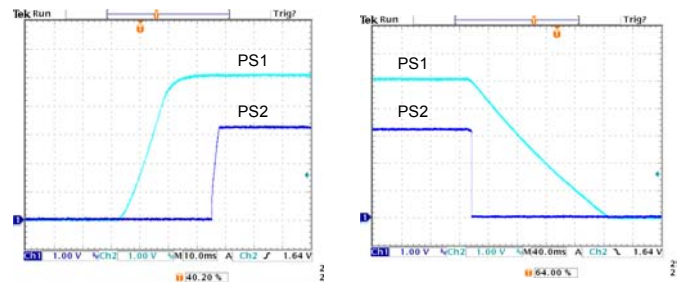

Figure 40: Sequential
Option code C: Implementation of advanced power tracking techniques is based on connecting the power good signal or selecting proper value for external resistor R1 (Figure 40 to Figure 43).
Sequential start-up (Figure 40) is implemented by connecting the power good pin of PS1 to the TRACK pin of PS2 with a resistor–capacitor (RC) circuit. Suggest to use 1μF ceramic capacitor and 2KΩ resistor here. Besides, this configuration requires PS1 to have a power good function.